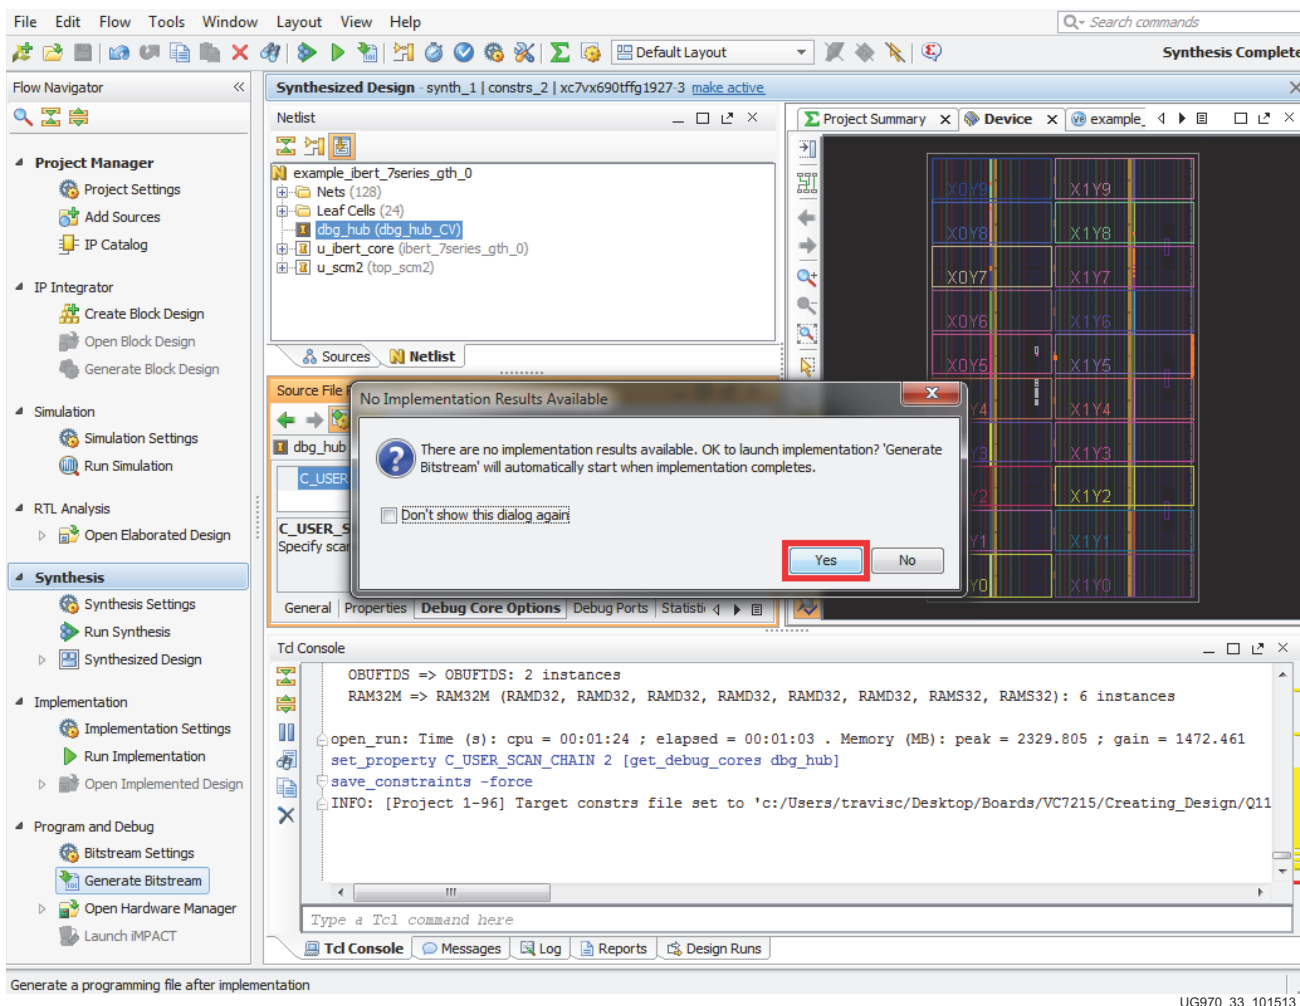

Figure 1-33: Generate Bitstream
17. In the Flow Navigator, under **Program and Debug**, click **Generate Bitstream** (Figure 1-33). A window pops up asking if it is ok to launch implementation. Click **Yes**.